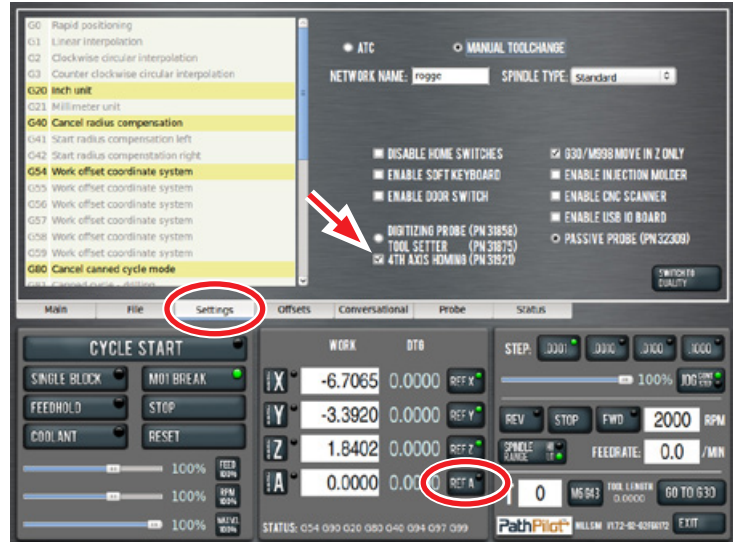

Figure 3
7. On PathPilot interface's *Settings* screen, click *4th Axis Homing* (PN 31921) checkbox (see **Figure 3**).
8. Using *REF A* button (see **Figure 3**), reference A-axis to a home position.